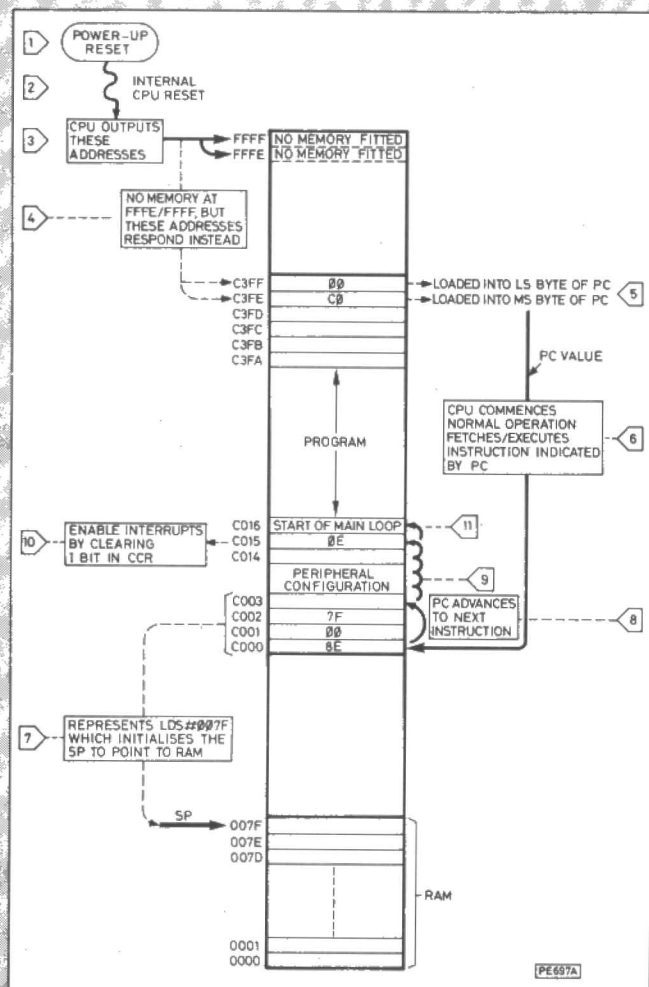

Fig. 4.1. CPU action after switch-on. The reset routine start address is located at addresses C3FE and C3FF
Having looked at each of the stages in starting up a micro system, it is useful to review the overall process to see how the various pieces fit together. One of the best ways of doing this is to follow the CPU's actions after a power-up reset. This is most easily illustrated by watching the progress through the address map of the system. In effect, this is the same as watching the value of the program counter (PC). Two snapshots of the memory map for the example system introduced in Part One are shown in Fig. 4.1 and Fig. 4.2.
The action after switch-on is shown in Fig. 4.1, where the CPU accesses the start address for the reset routine by putting values of FFFE and FFFF on the address bus, and then jumps to the address contained in these two locations. As mentioned, the ROM is located at address C000 to C3FF, but the partial address decoding causes FFFE/FFFF to access C3FE/C3FF, respectively. In the snapshot, we assume that the reset routine starts at C000. The first action in